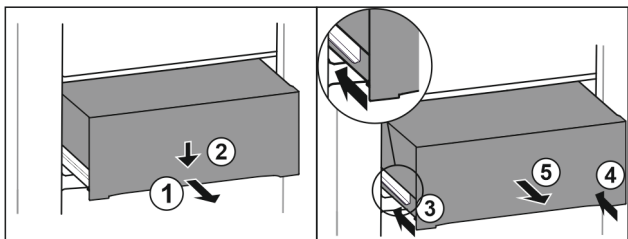

Fig. 167
- ▶ Pull out drawer half-way. Fig. 167 (1)
- ▶ Push the drawer down at the front. Fig. 167 (2)
- ▶ Push the left rail in by about 2 cm. Fig. 167 (3)
- ▶ Push the right rail in by about 2 cm. Fig. 167 (4)
- ▶ Remove drawer to the front. Fig. 167 (5)